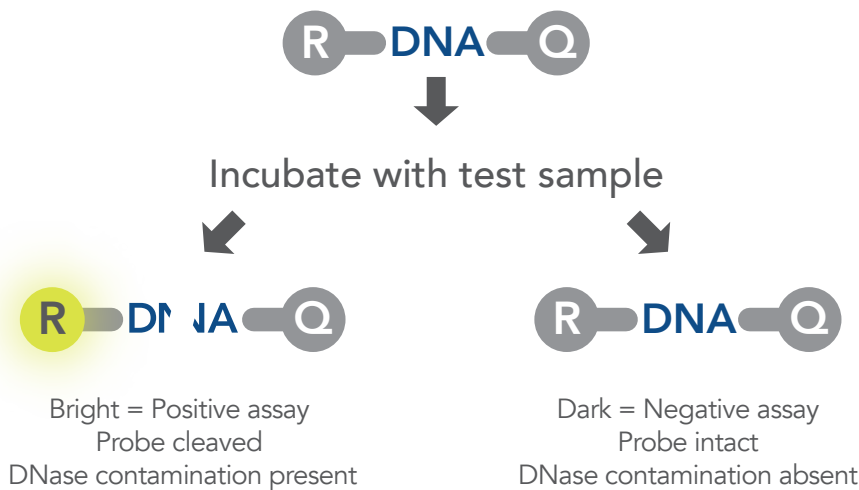

Figure 1. How DNaseAlert Kit works.
The DNaseAlert Substrate is a synthetic DNA oligonucleotide that has a HEX reporter dye (hexachlorofluorescein, R) on one end and a dark quencher (Q) on the other end (Figure 1). Its sequence has been carefully optimized to react with a wide variety of nucleases; it contains domains that will react with single-stranded endonucleases, single-stranded exonucleases, and double-stranded nucleases. Intact, the substrate has little or no fluorescence. When cleaved by a DNase, the substrate fluoresces pink (536 nm or UV excitation, 556 nm emission).